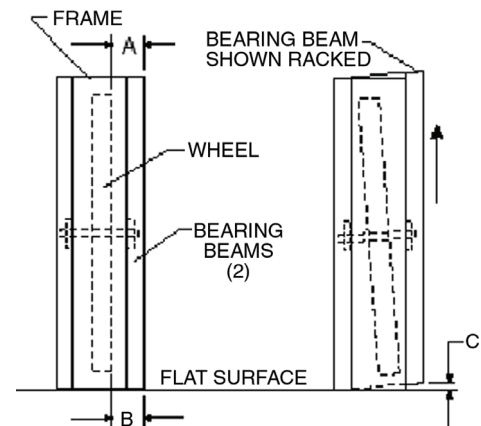
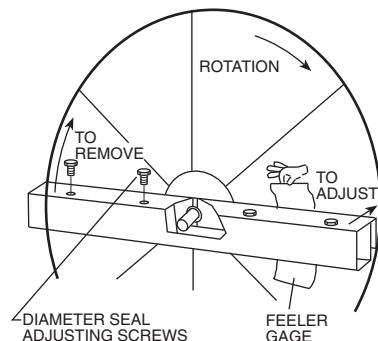

Fig. 164 — Avoid Racking of Frame
Fig. 165 — Diameter Seal Adjustment
5. Remove the upper and lower (2) wheel retainer angles, being careful wheel does not tip and fall out.
6. Slide wheel cassette out of frame (toward main AHU), and out the side of the unit (3).
7. The new ERV section may be mounted in any orientation. However, make certain that the frame remains flat and the bearing beams are not racked as shown in Fig. 164.
8. To ensure that the beams are not racked, check that the distance between the wheel rim and bearing beam is the same at each end of the bearing beam, to within $\frac{1}{4}$ of an inch (dimension A and B in Fig. 164). Bearing beam racking of as little as 0.040 inches (Dim C in Fig. 164) will cause the wheel to tilt $\frac{3}{16}$ in. at the rim. Adjusting the diameter seals (Fig. 165) will compensate for up to $\frac{1}{4}$ in. of racking.
9. Wheel sections installed at angles greater than 30 degrees from vertical will require seal adjustment (Fig. 165). Adjust the diameter seals to avoid excessive wheel drag. A final check of seal adjustment is recommended for all designs.
1. Loosen the diameter seal adjusting screws and back seals away from wheel surface (Fig. 165).